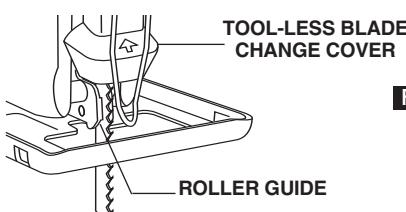

FIG. 4
1. Insert the saw blade (teeth in cutting direction) until it latches in the plunger (Fig. 4).